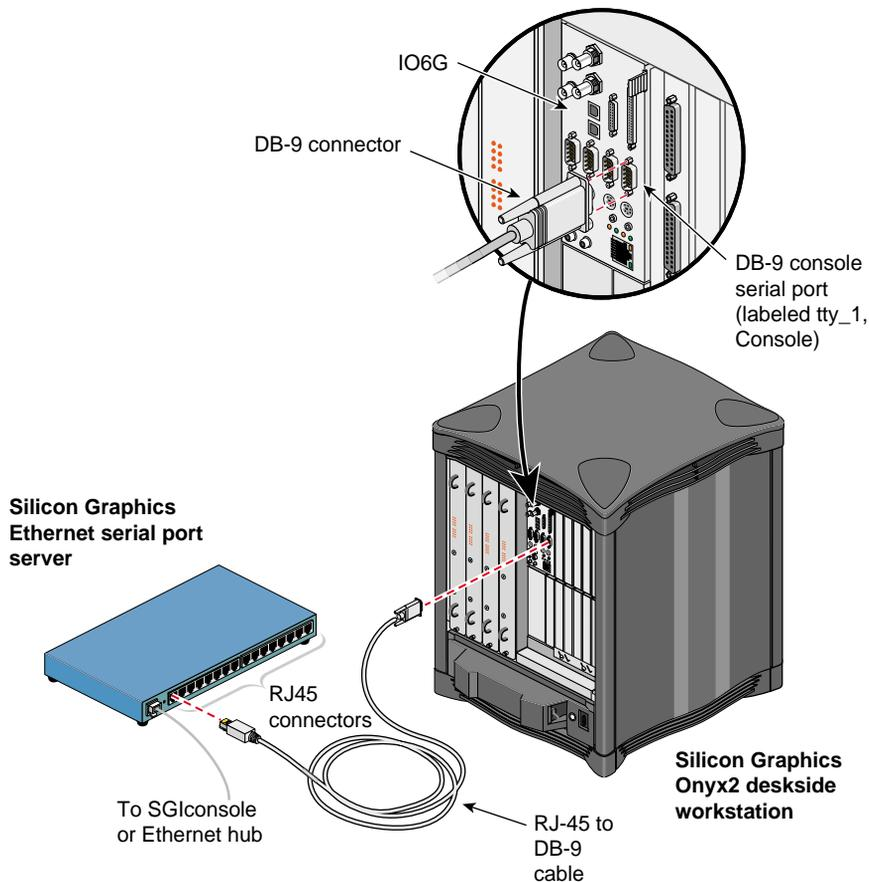

Figure 5-29 Connecting the tty_1, Console Connector to the Serial Port Server
6. Connect the RJ-45 end of the RJ-45 to DB-9 serial cable to one of the RJ-45 serial jacks on the Silicon Graphics EL-16 serial port server. Connect the DB-9 connector to the Silicon Graphics Onyx2 deskside workstation serial port jack labeled “tty_1, Console.” See Figure 5-29.